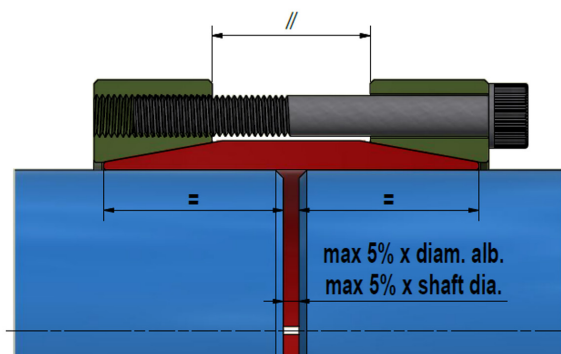
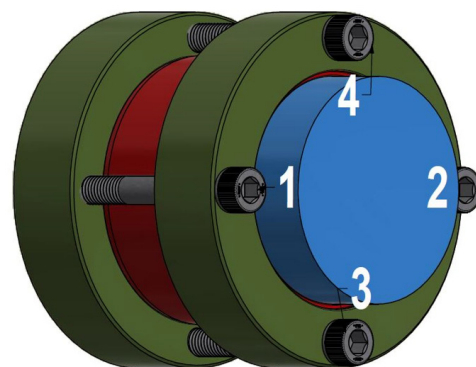

Fig. 2
Fig. 3
2. Move the Coupling onto the shafts, making sure that they are aligned. **Shaft engagement shall be equal for both ends; distance between shaft ends shall not exceed 5% of shaft diameter (fig. 2).** Hand-tighten three or four evenly spaced screws (fig. 3) and make sure that outer rings are parallel; then hand-tighten remaining screws. At the end of this stage, a light connection is achieved.